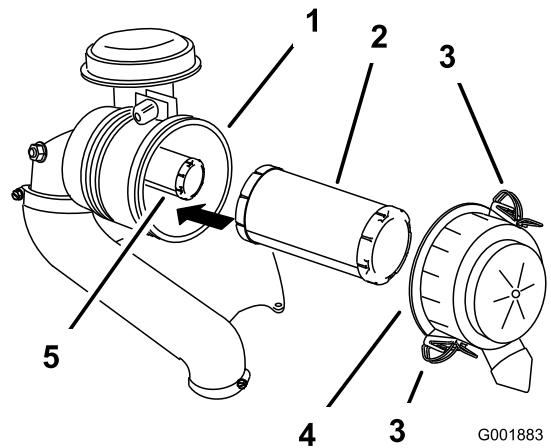

Figure 46
5. Gently slide the primary filter out of the air-cleaner body (Figure 46).
3. Release the latches on the air cleaner and pull the air-cleaner cover off the air-cleaner body (Figure 46).
2. If you are replacing the inner filter, carefully slide it into the filter body (Figure 46).
- Carefully slide the primary filter over the safety filter (Figure 46).
- Install the air-cleaner cover and secure the latches (Figure 46).